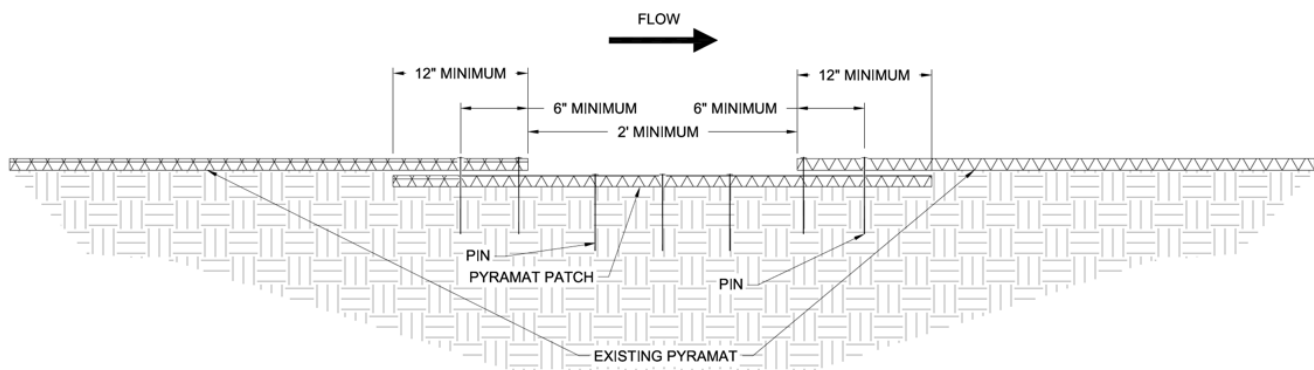
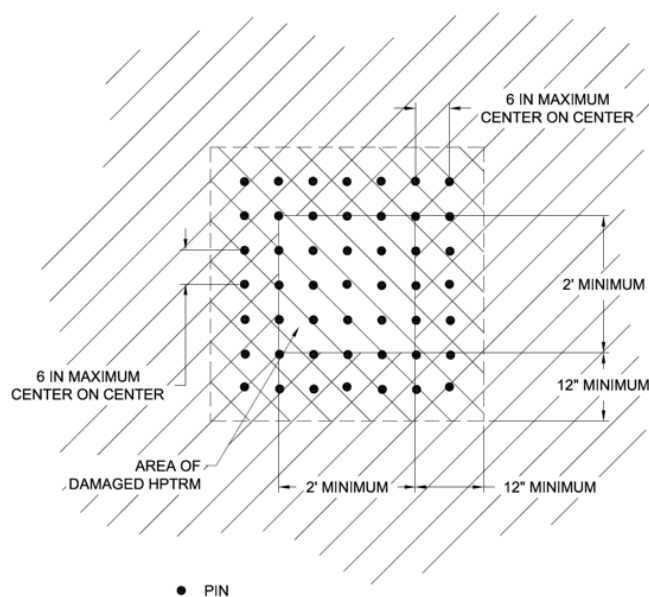

Figure 21: PROPEX Pyramat patch cross section
Figure 22: PROPEX Pyramat patch plan view
- A. Acceptable (A) - The rated area is in satisfactory, acceptable condition, and will function as designed and intended during the rain event. **PROPEX** Pyramat has no exposed edges, is installed tightly by maintaining direct contact to the slope surface with no drilling beneath, and has over 90% vegetation cover. There is no noticeable damage present.
- B. Minimally Acceptable (M) - The rated area has a minor deficiency that needs to be corrected. The minor deficiency will not seriously impair the functioning of the area during the next rain event; however, the overall reliability of the project will be lowered because of the minor deficiency. **PROPEX** Pyramat has 75% vegetation cover with unvegetated patches as large as one square yard. Edges of the material are exposed with noticeable damage. Minimal erosion has occurred underneath **PROPEX** Pyramat.
- C. Unacceptable (U) - The rated area is unsatisfactory. The deficiency is so serious that the area will not adequately function in the next rain event. **PROPEX** Pyramat has been physically torn, ripped, or lifted from the slope surface. Less than 75% vegetation cover is present with unvegetated patches being greater than 1 square yard, and there is evidence that erosion is occurring beneath **PROPEX** Pyramat.
3. To repair **PROPEX** Pyramat, cut out and remove damaged areas in a square configuration a minimum size of 2 ft by 2 ft. Remove all vegetation and debris atop of the material. Loosen the top 1 to 2 in of soil in the patch area then seed. The subgrade of area to be patched shall be prepared to be smooth and uniform and transition smoothly into the in-situ area. Cut a square **PROPEX** Pyramat patch a minimum of 12 in greater than the damaged area for all four sides of the patch. Overlap the patch area in all directions a minimum of 12 in. The patch overlaps shall be tucked under the existing damaged **PROPEX** Pyramat material (Figure 21 and Figure 22).